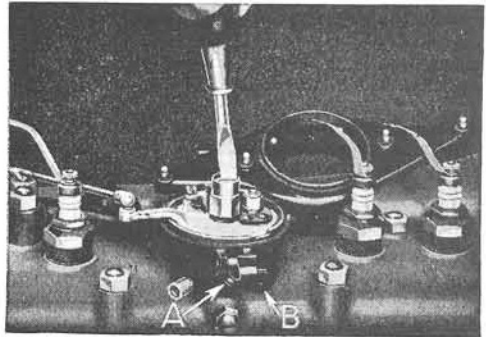
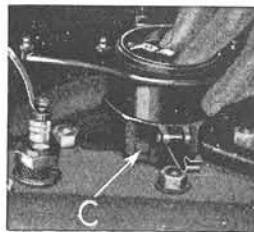

Fig. 23. Loosening cam locking screw so cam can be turned. The distributor cover, rotor and distributor body are removed.
Fig. 24 (left). Distributor body and rotor replaced. Rotor arm is turned opposite No. 1 high-tension contact in distributor head.
6. Loosen cam locking screw until cam can be turned, see Fig. 23.
7. Replace rotor and turn it until the rotor arm is opposite No. 1 high-tension contact point in distributor head, see Fig. 24.
Inspection of condenser: To remove the condenser from the distributor, remove the sealing wax covering screw head, C, Fig. 24 and back out the screw. Remove screw at A, Fig. 23 and remove condenser B.